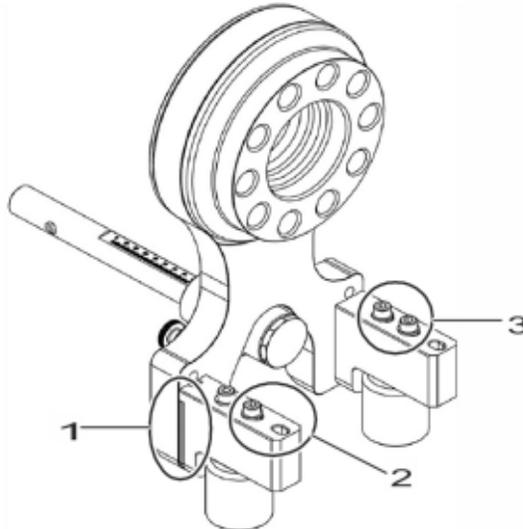

Figure 79
- ⇒ **Figure 79 -1-** – Assembly point for RO adjusting shims
- ⇒ **Figure 79 -2-** – RO adjusting range B, rear fastening option
- ⇒ **Figure 79 -3-** – RO adjusting range A, front fastening option